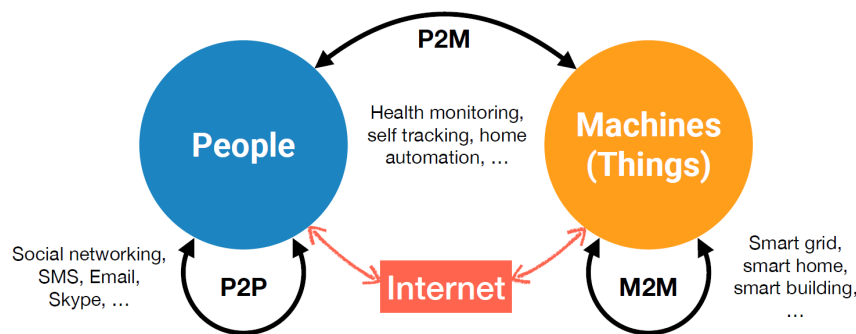

Figure 1: IoT Systems
Figure 1 illustrates the core communication paradigms in the Internet of Things (IoT) ecosystem. These paradigms encompass the interactions between people and machines, all mediated by the Internet. The figure distinguishes three principal modes: (1) Person-to-Person (P2P) communication, as seen in social networking and messaging platforms; (2) Person-to-Machine (P2M) interaction, which appears in applications such as health monitoring and home automation; and (3) Machine-to-Machine (M2M) communication, which supports smart infrastructures like power grids and intelligent buildings. In all cases, the Internet serves as the essential medium, enabling reliable and efficient connectivity across distributed users and devices.